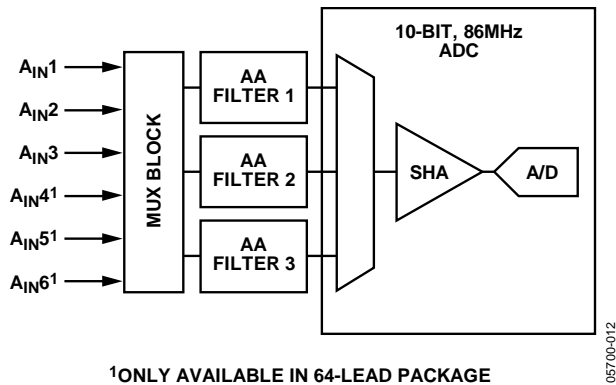
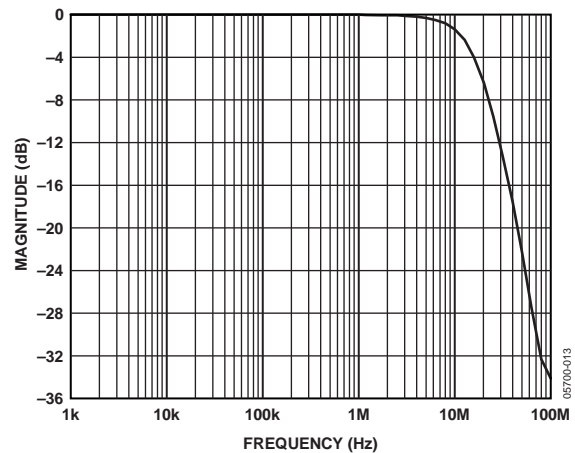
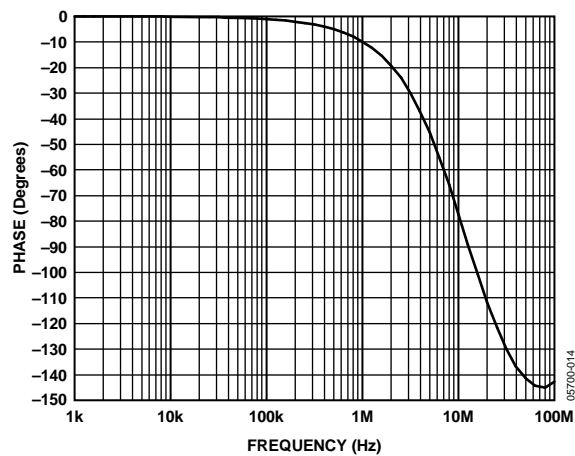

Figure 13. Antialias Filter Configuration
Figure 14. Antialiasing Filter Magnitude Response
Figure 15. Antialiasing Filter Phase Response
The ADV7180 has optional on-chip antialiasing (AA) filters on each of the three channels that are multiplexed to the ADC (see Figure 13). The filters are designed for standard definition video up to 10 MHz bandwidth. Figure 14 and Figure 15 show the filter magnitude and phase characteristics.